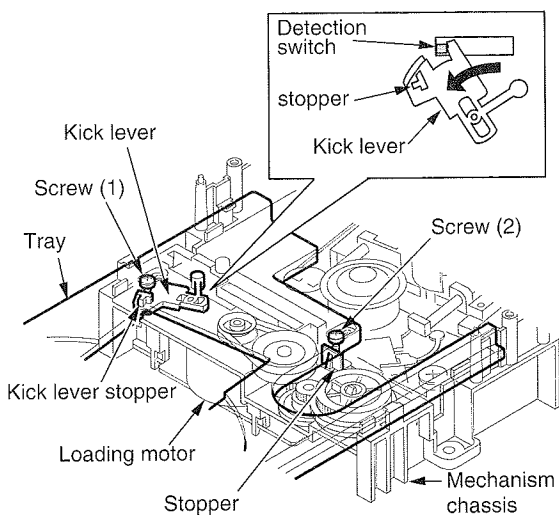

Fig. 1-7
4. Fig. 1-7 shows the end of opening the tray. The screw (1) is fixed in the rear left of the tray. This screw pushes the kick lever stopper forward, rotates it and turns on the detection switch. The detection switch turns on at 3 to 4 mm before the tray fully opens. When the loading motor is controlled to turn off by a microcomputer, the tray stops. At this time, even if the tray overruns due to the inertia of the motor, the screw (2) fixed in the rear right of the tray hits upon the stopper of the mechanism chassis to stop the tray.